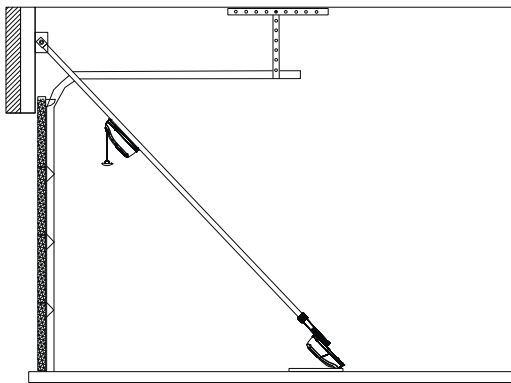

Fig. 6
- Raise the Drive Rail up to the Header Bracket so that the Drive Rail sits in between the ears of the Header Bracket. (Fig.6)